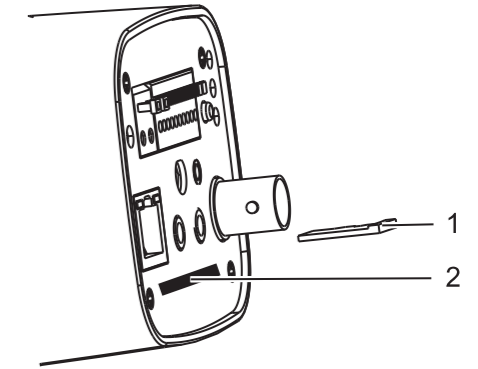

Figure 4 SD card installation
To install an SD card, insert the SD card (1) into the SD card slot (2) as shown in Figure 4.